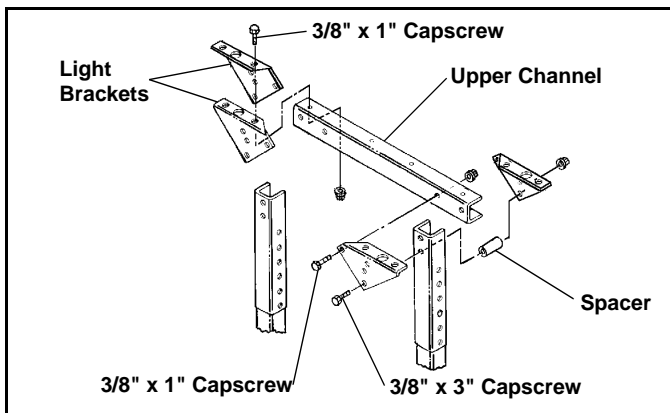

Figure 7
3. Attach pair of Light Brackets (#15) and (#16) to each end of Upper Channel with four (4) 3/8" x 1" Capscrews (#21), and Nylock Nuts provided. (See Figure 7)
4. Attach Light Brackets/Upper Channel assembly to Mounting Channels with two (2) 3/8" x 1" Capscrews (#21), and two (2) 3/8" x 3" Capscrews (#24), Washers, and Nylock Nuts provided. Use two (2) Spacers (#33) between Light brackets and channel on long Capscrews. (See Figure 7)